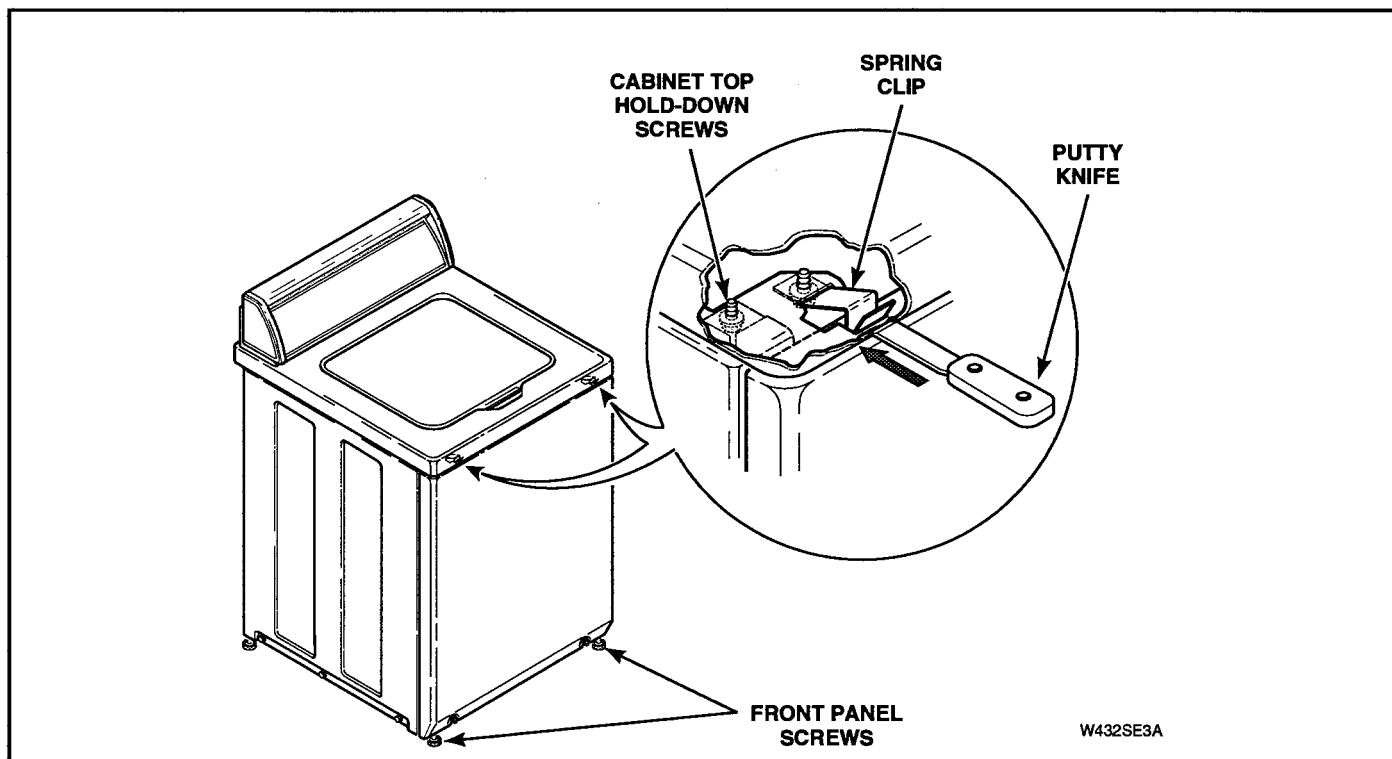

Figure 5-19
**NOTE:** Top edge of front panel is held in place by two spring clips located on bottom flange of cabinet top. See Figure 5-19.
- Insert putty knife between cabinet top and top edge of front panel (approximately three inches in from side). See Figure 5-19.
- a. Insert putty knife between cabinet top and top edge of front panel (approximately three inches in from side). See Figure 5-19.